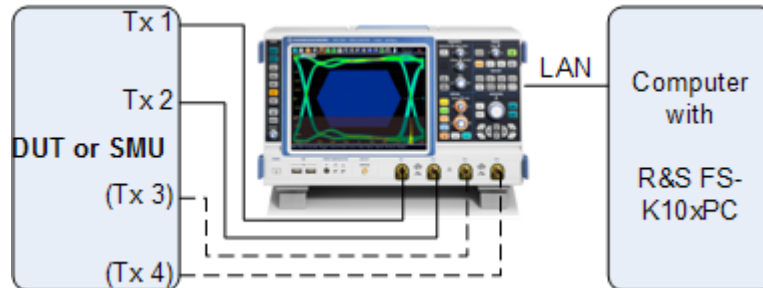

Figure 4-6: Test setup for LTE MIMO measurements with an oscilloscope
The hardware setup is illustrated in Figure 4-6. All transmit antennas (TX) of the device under test (DUT) or an SMU are connected to the RF input of the RTO. Either two or optionally four antennas are attached. The LTE-Software runs on a PC and is connected to the RTO via a local area network (LAN).